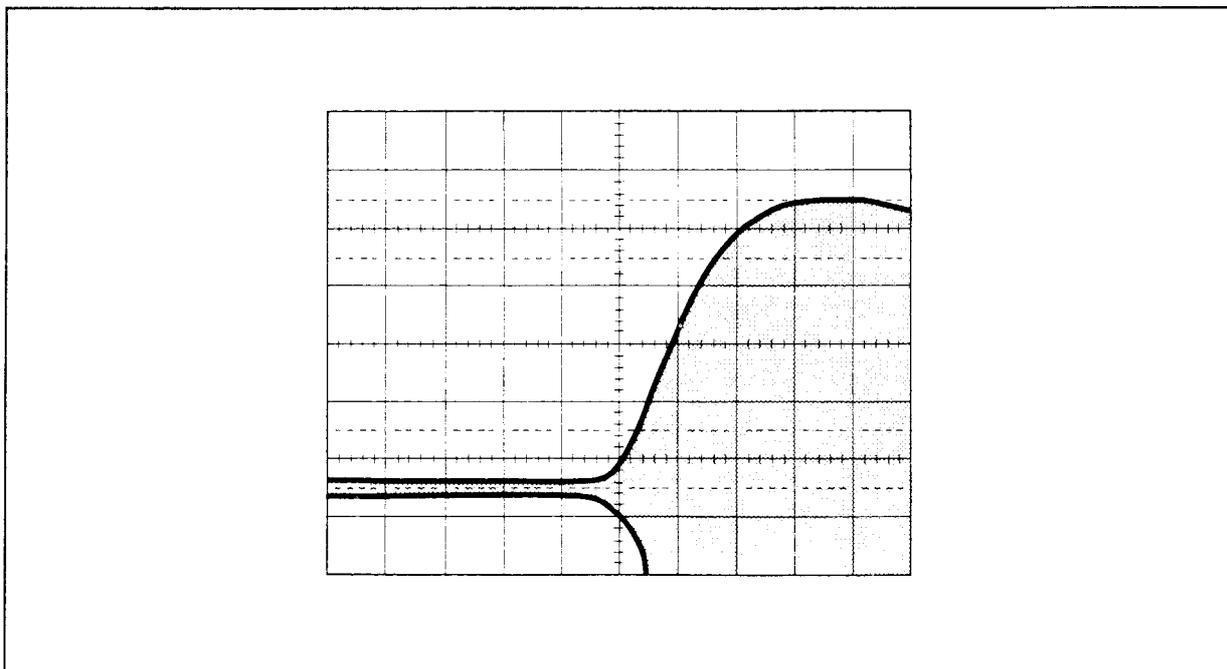

Figure 4-14. Pulse Modulation Rise Time Waveform
5. Set the oscilloscope horizontal for 50 nanoseconds/division and select channel A input only. Adjust the channel A (pulsed IF input signal) vertical gain and position so that the pulse OFF is at the 0% graticule line and the pulse ON is at 100% graticule line. Select the horizontal MAG X10. The oscilloscope is now calibrated for 5 nanoseconds/division. Adjust the horizontal position control to position the modulation envelope so that the 10% point of the envelope rise time is at the center vertical graticule line similar to Figure 4-14.